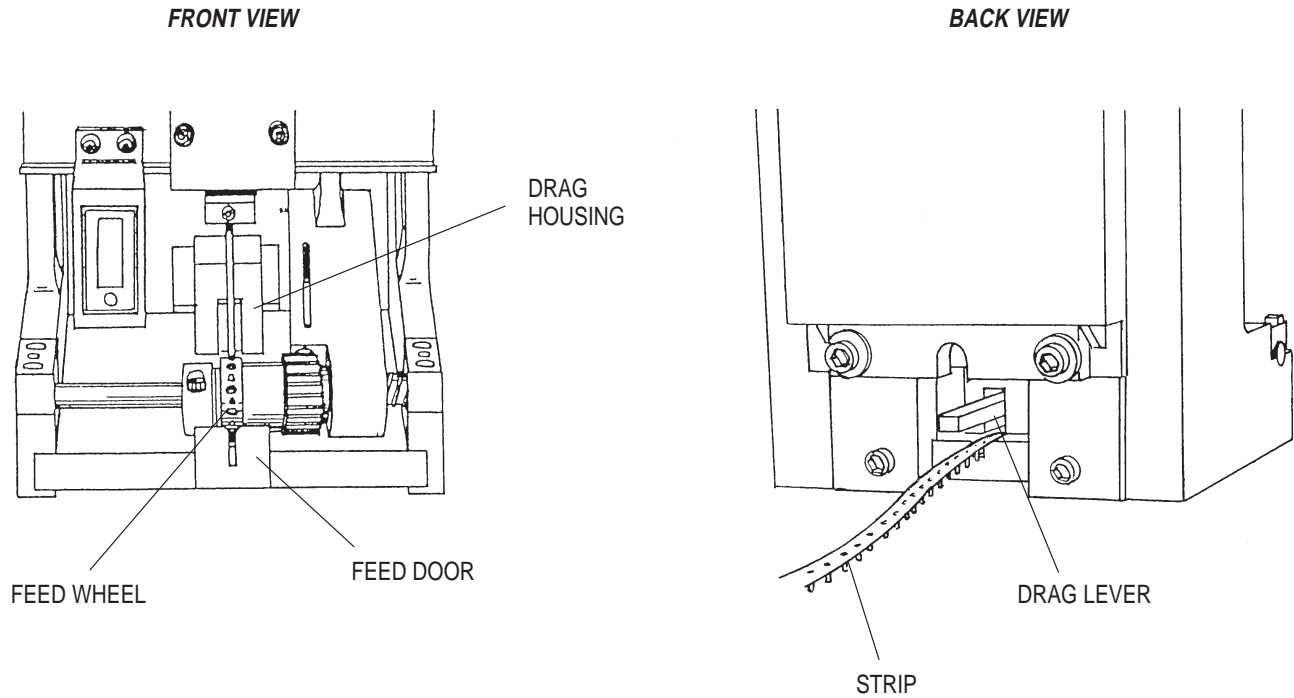

Figure 4-1. Socket Loading and Unloading
4.2. Socket Loading (Figure 4-1)
4.3. Socket Unloading (Figure 4-1)